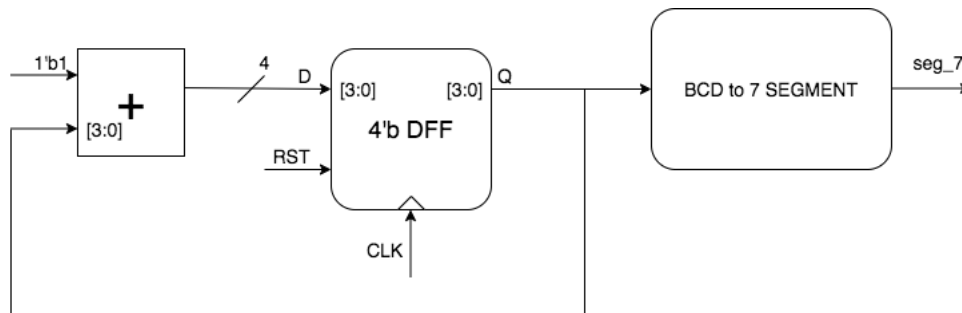

Figure 1: DFF and '+1 adder' approach
1. You could design a '+1 adder' and instantiate a DFF to remember the current number as shown in figure 1.